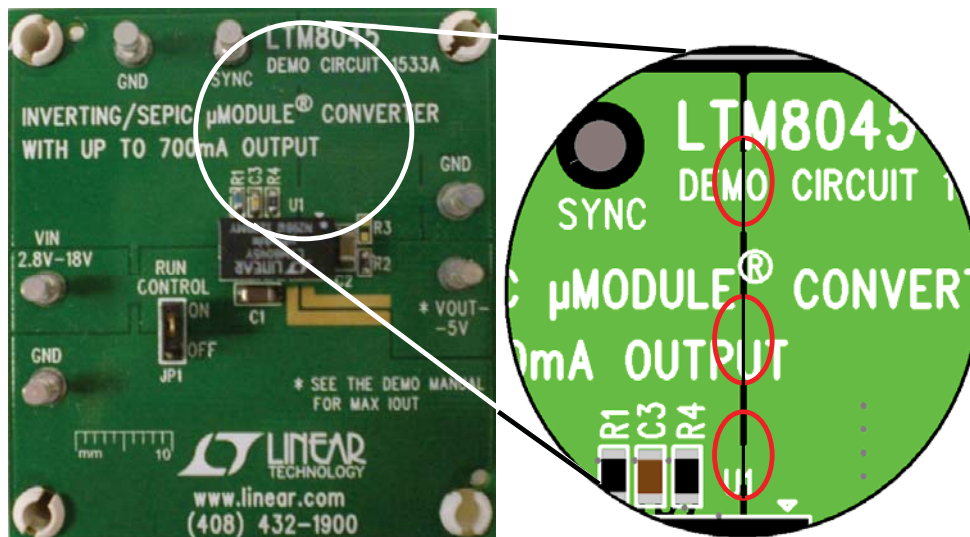

Figure 5
3. Make three cuts on the top copper to separate the terminal labeled GND from the ground plane, as shown in Figure 5. The terminal labeled GND is now V_{OUT}⁺.